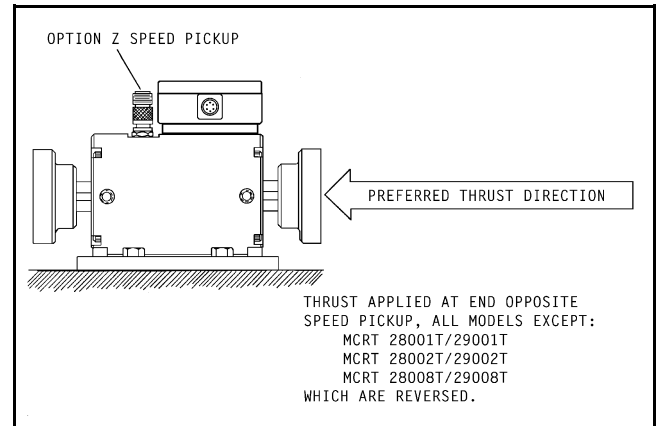

Figure 4. Preferred Thrust Path
Orienting a foot mounted torque meter per Figure 4 will provide increased unidirectional thrust capacity. Because dynamic thrust loading is usually bidirectional, it's safest to limit bearing axial (thrust) loads per ¶C.3. Orientation does not affect the thrust capacity of torque meters installed as floating shafts.
When axial bearing loads are *unidirectional*, the orientation illustrated in Figure 4 increases the unidirectional thrust rating by a factor of four (4). The